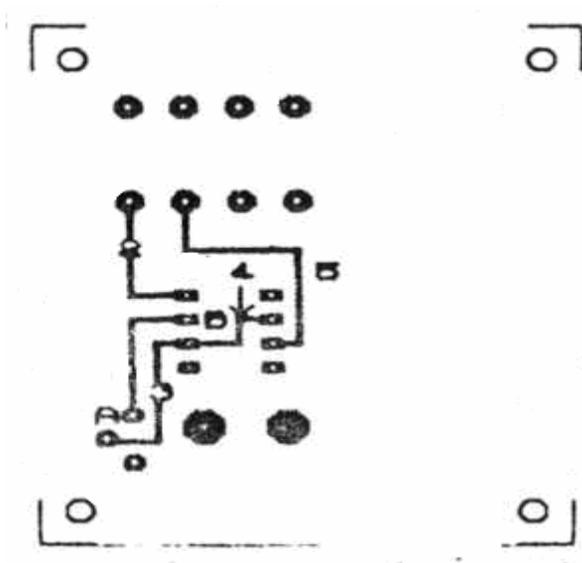

Figure 3.
(vi) Using figure 3 below for reference, have a go at laying the track labelled 1;
To do this, move the pen to the top of pad A in fig 3. Keep the 'nib' in line with the centre of the pad, (do not place it directly over the centre hole otherwise the hole will be filled in!), and press key 9 for 'PEN ON'.
(vii) Attempt to draw in the tracks 2, 3, and 5 as shown below in figure 3: